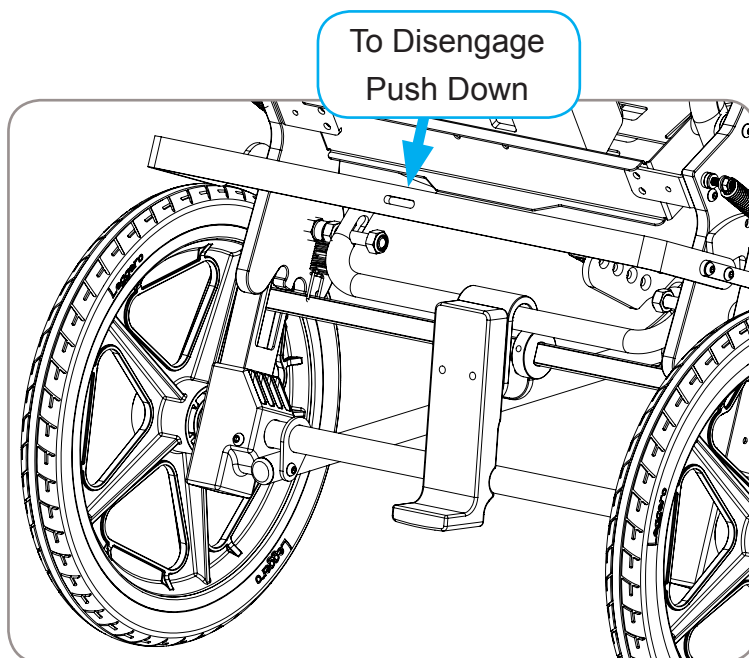

Figure 3
3. To disengage wheel locks, push down on center of crossbar with foot. Reference Figure 3.